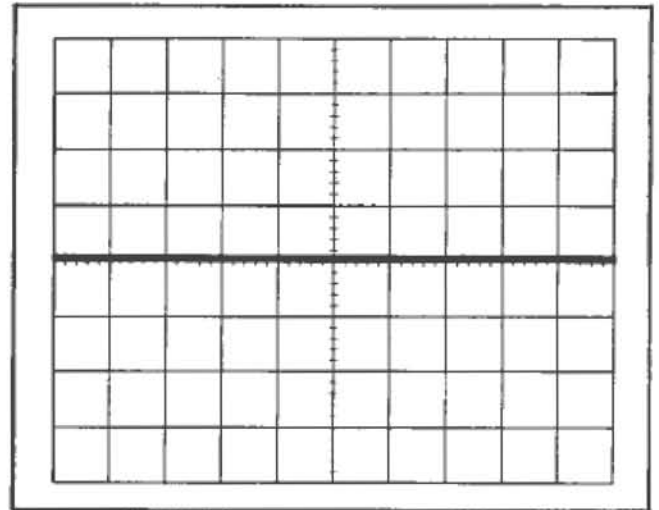

Fig. 6-27. Typical CRT display showing correct common-mode rejection.
- CHECK—CRT display 0.1 division or less (common-mode rejection ratio of 100:1 or greater; see Fig. 6-27).